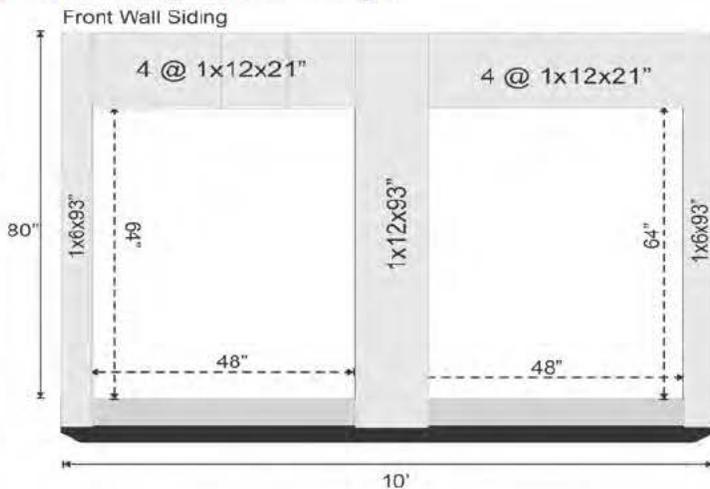

Figure 4-Front Wall Siding
**Step 5.** Install front wall siding. Allow siding to stick above the top plate a maximum of 3" on the front wall only. The rafters will butt against the siding. The front 10' long wall is made up of 11 boards. See Figure 4 for correct placement. Nail off every 6" around doors.